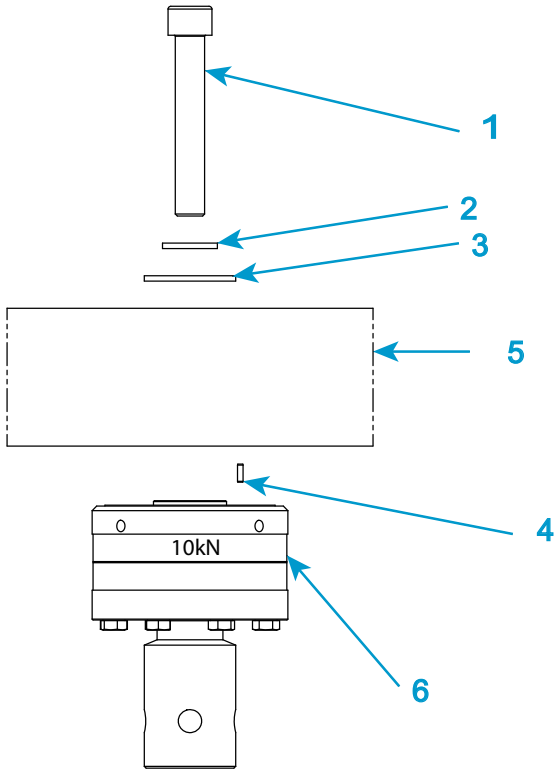

Figure 18. Install a 2530-10kN load cell
Legend for Figure 18
1. Refer to Figure 18 on page 77 and its associated legend.